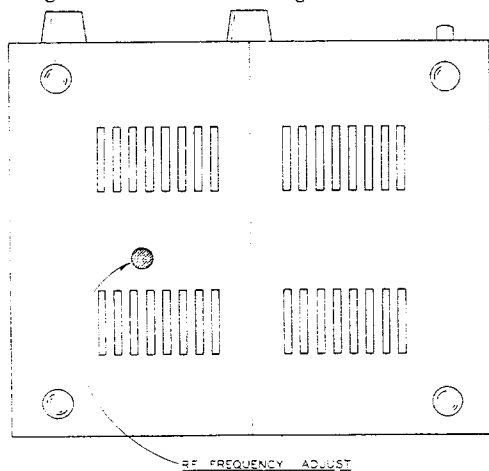

Fig. 2
*NOTE:* This unit is factory aligned for channel 3, but can be retuned for channel 4 or 5 by adjustment of the RF coil from the bottom of the cabinet. To tune for channel 4, rotate the slug 1½ turns in a CCW direction from its channel 3 setting. To tune for channel 5, rotate the slug 4 turns in a CCW direction from its channel 3 setting. See Fig. 2.